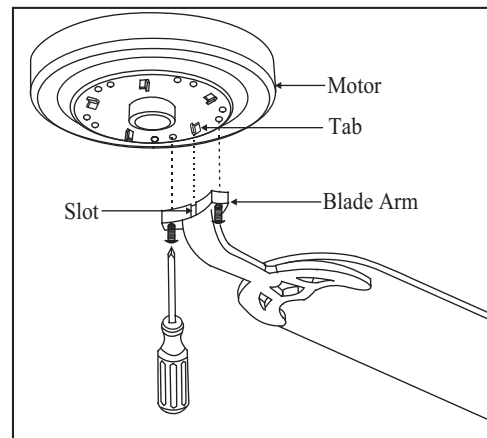

Figure 14
3. Fasten the blade assemblies to the motor housing by lining up the slots of the blade arms with the tabs on the motor housing, then tighten the two screws and washers already installed in the blade arms (Figure 14).